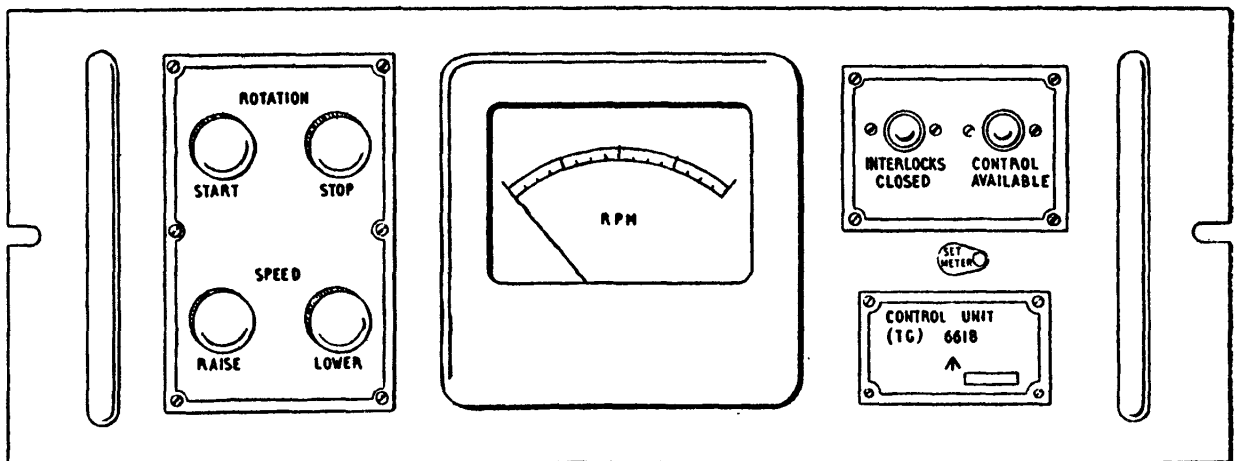
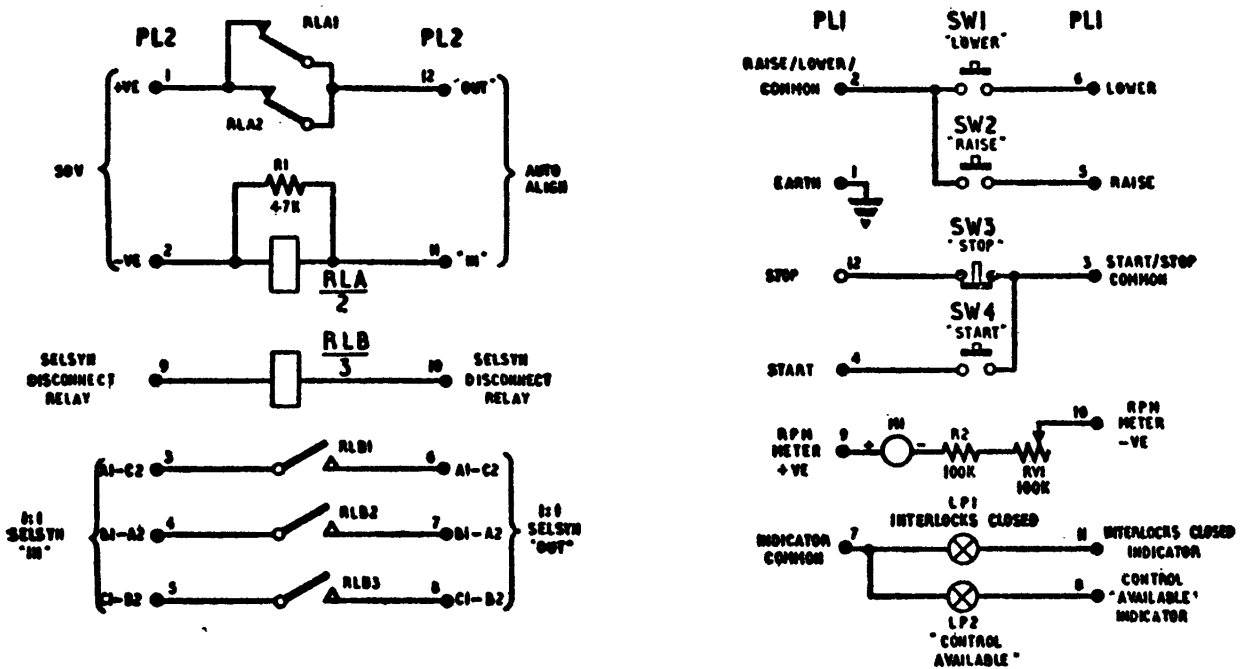

Fig. 1. Control unit 6618: front panel
Fig. 3. Control unit 6618: circuit
2. Front and top views of the unit, which measures 17 in. × 5¼ in. × 11¼ in., are shown in fig. 1 and 2. The circuit is given in fig. 3. It contains four push-buttons, two lamps and a meter which indicates the turning speed of Type 80, whose normal running speed is 4 r.p.m. The lamps indicate INTERLOCKS CLOSED and CONTROL AVAILABLE. Control position has to be selected by a switch on the front of Master control cubicle. When this switch is set to REMOTE, the CONTROL AVAILABLE lamp lights, indicating that the rota-